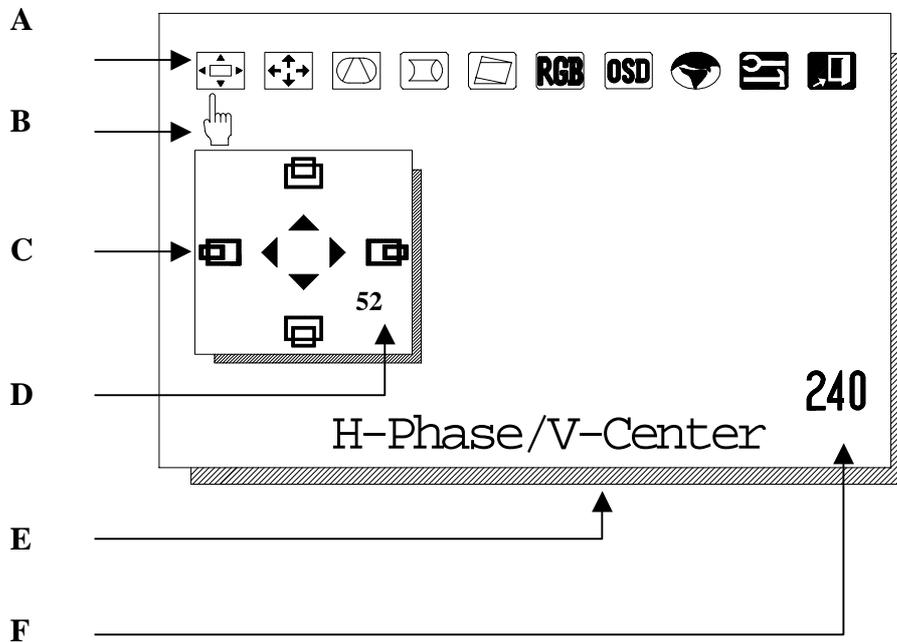

Figure 7 Function Menu
- (1). **Press “Menu” key to enter the OSD menu containing 10 functions as shown in figure 7**
- (2). **Select adjustment function**
Make the adjustment using the four function control keys. Please refer to the Figure 7 for advanced operation.
(Please refer to the figure 7)